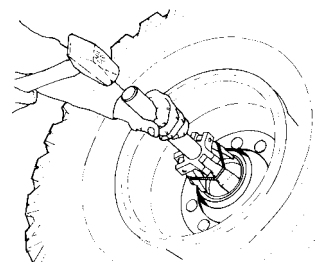

FIGURE 3
3. Install the bearing cup. See Figure 3.